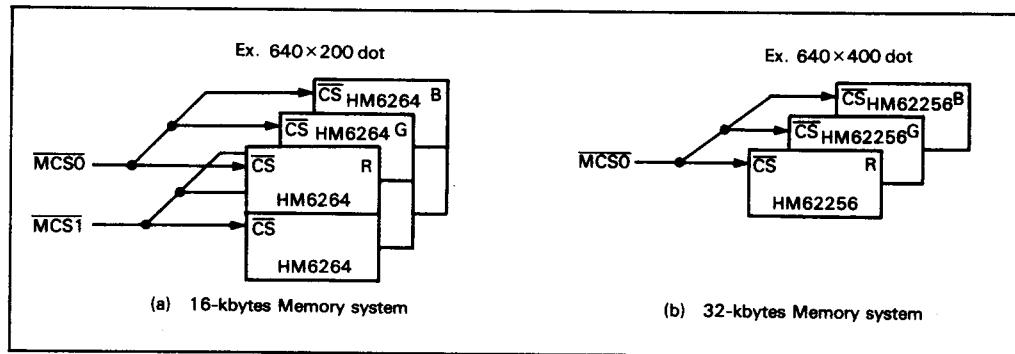

Figure 5 Relation between Display Screen Memories
For example, a screen of  $640 \times 200$  dots requires 16-kbyte memory capacity since  $80 \text{ characters} \times 200 \text{ lines} = 16 \text{ kbytes}$ . (8 dots compose a character.) Therefore, each plane needs two HM6264s, which have 8-kbyte memory capacity, in 8-level gray scale display modes. Connect  $\overline{\text{MCS0}}$  with one of the memories of each plane and  $\overline{\text{MCS1}}$  with the other (figure 5 (a)).
When the screen size is  $640 \times 400$  dots, 32-kbyte memory capacity is required (figure 5 (b)). Therefore, each plane needs a HM62256, which have 32-kbyte memory capacity.
**8-Color Display (Mode 9 to Mode 16):** In 8-color modes 9-16, the LVIC displays 8 colors with red (R), green (G), and blue (B) filters on liquid crystal cells. The eight colors are the same as those provided by CRT display. As illustrated in figure 5, 8-color display has of two stripe modes: horizontal stripe mode and vertical stripe mode. In the former mode, the LVIC arranges R, G, B data horizontally, with horizontal filters. In the latter mode, the LVIC arranges R, G, B data vertically, with vertical filters. Three cells express a dot in both modes.